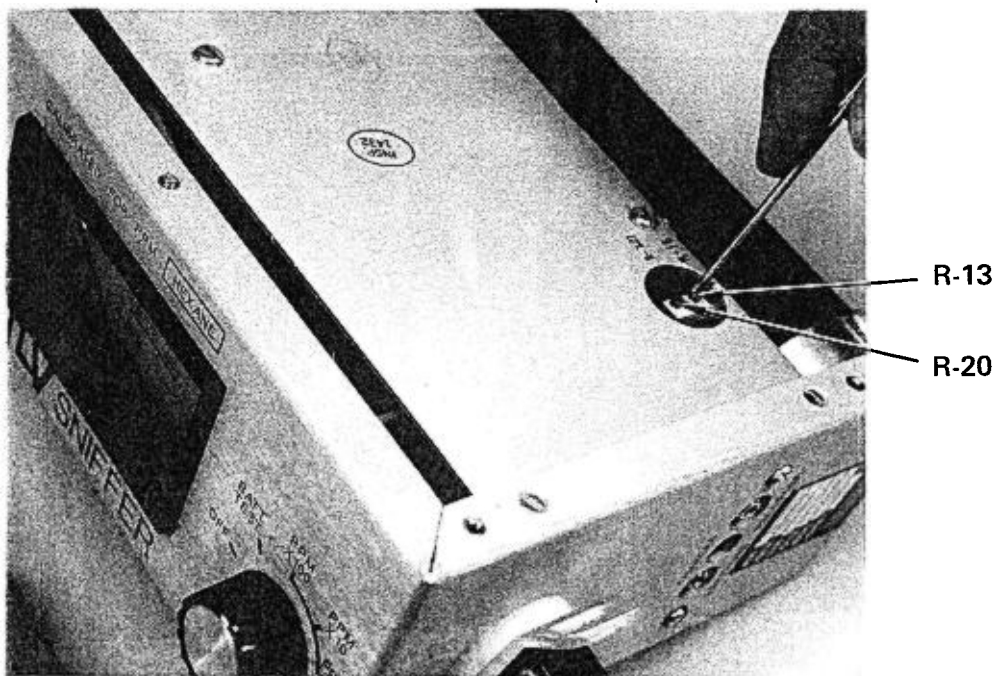
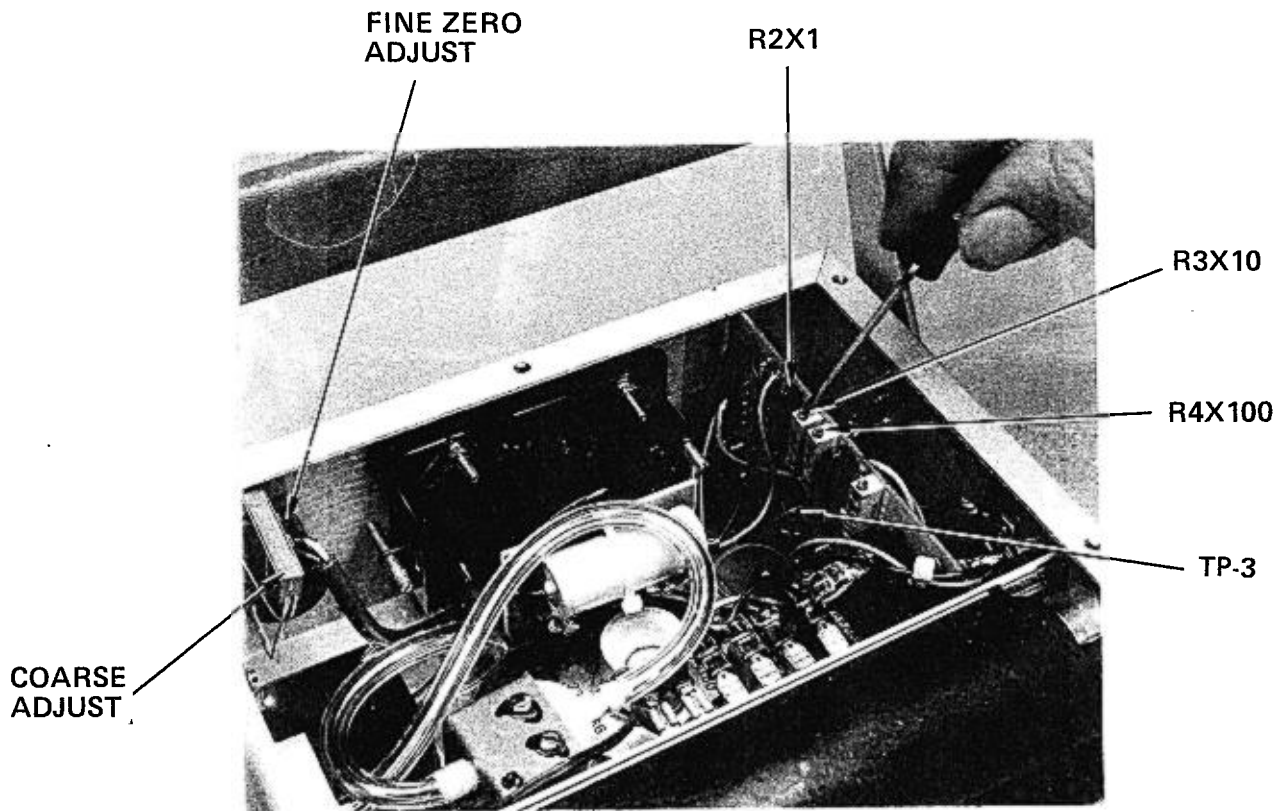

Figure 2-3. Locating and adjusting R-13 on PPMX100 position for meter pointer indication of scale zero.
Figure 2-4. Locating and Adjusting R-3 for certified Gas Indication of 500 ppm on the meter.
Refer to Figure 2-4 locating TP-3 and connect a Voltmeter between TP-3 (+) and ground (-), check for 6VDC. If not, refer to Figure 2-3 locating R-20 and adjust for 6VDC \pm .01 VDC.
- 4) After allowing for five-minute warm-up, turn MODE SELECTOR switch to PPMX100 position and adjust R-13 (see Figure 2-3) for meter pointer indication of scale zero.
- 6) Turn MODE SELECTOR switch to PPMX10 position. Reconnect Gas Transfer Assembly to TLV Sample-In (Inlet) fitting. Open Regulator Valve (clockwise) and adjust for Flowmeter indications of (1) cfh to ensure adequate pump flow. Allow one minute for meter pointer to achieve maximum indication (refer to Figure 2-4), adjust R-3 the X10 Span Adjuster until meter pointer indicates mid-scale (50) or 500 ppm. Remove gas, close Regulator Valve (fully CCW) and allow about two minutes for meter pointer to return to zero.